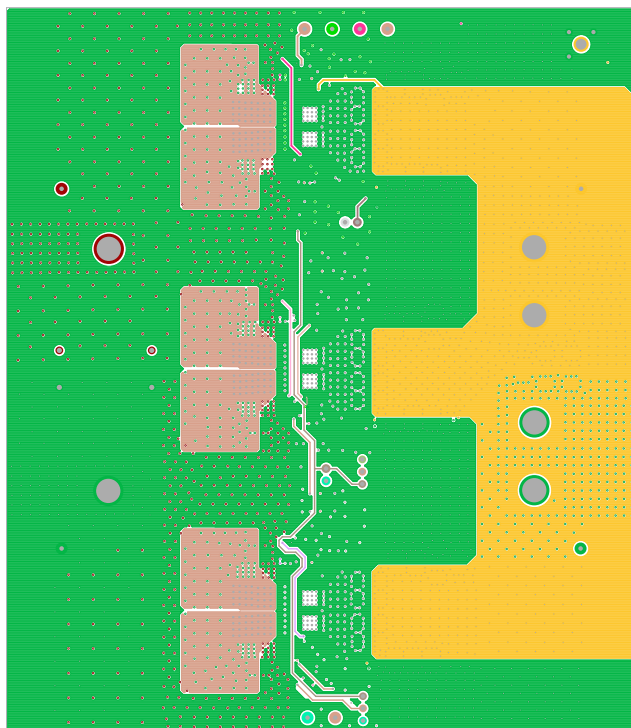

Figure 11. Layer 5
- Phase 1 and Phase 2 pads are switching nodes that generate switching noise. Keep these pads under the module. For noise-sensitive applications, Renesas recommends keeping phase pads only on the top and inner layers of the PCB; do not place phase pads exposed to the outside on the bottom layer of the PCB. To improve the thermal performance, the phase pads can be extended in the inner layer, as shown in Phase 1 and 2 pads on layer 3 (Figure 11) for this 90A evaluation board. Make sure that layer 2 and layer 4 have the GND layers to cover the extended areas of phase pads at layer 3 to avoid noise coupling.